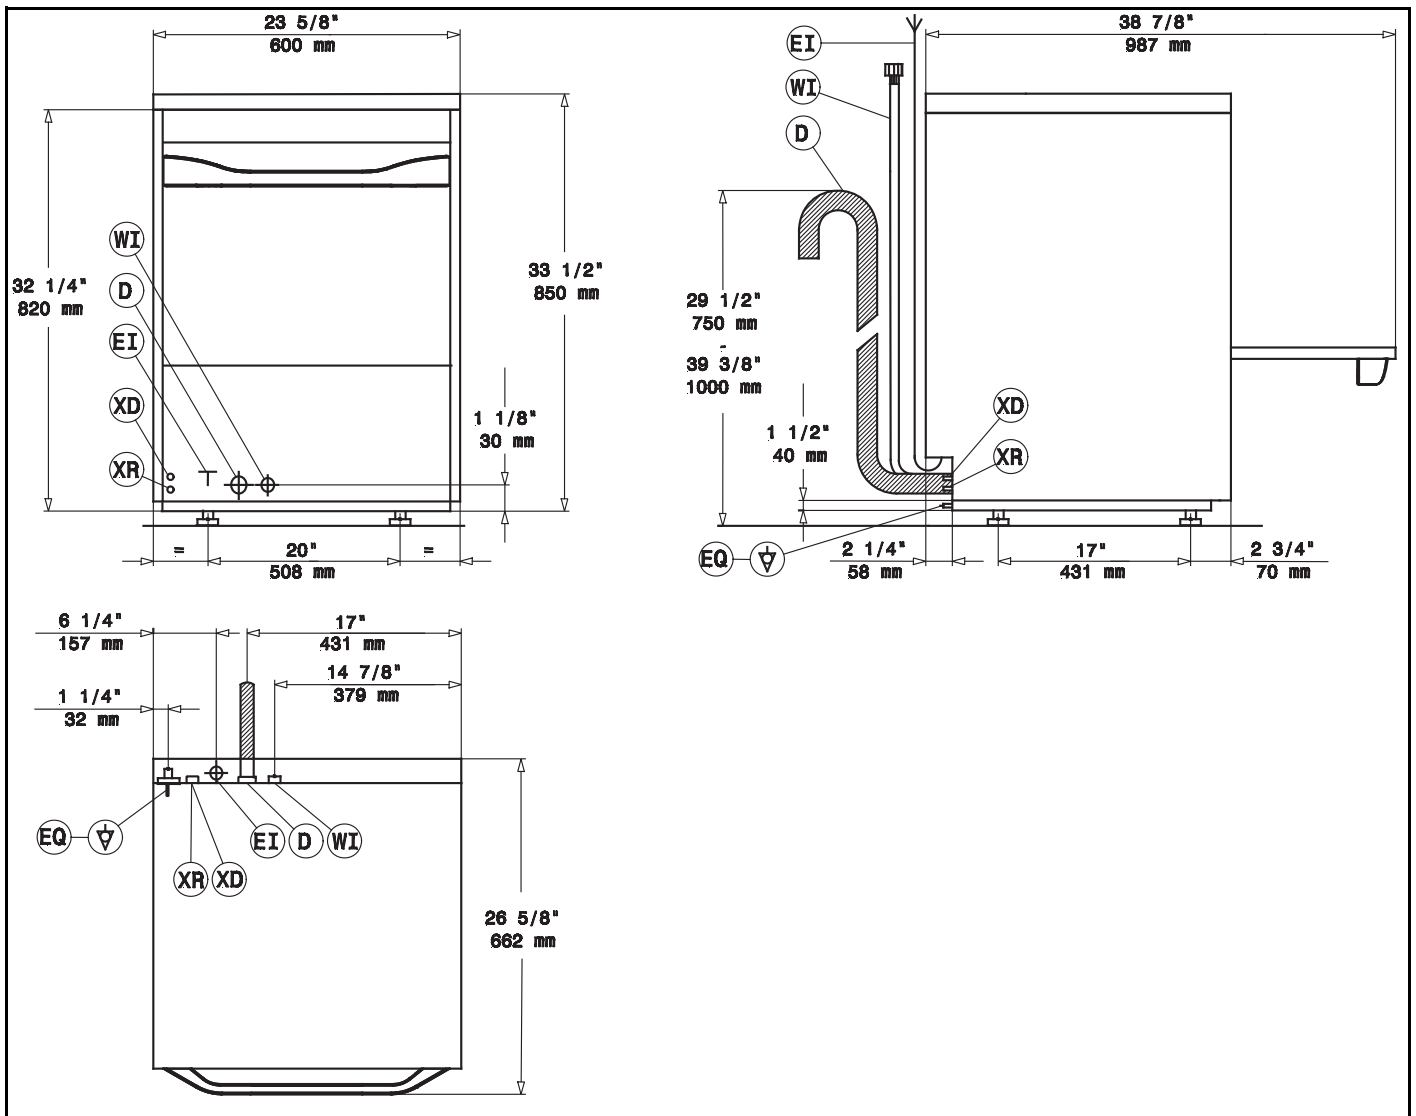
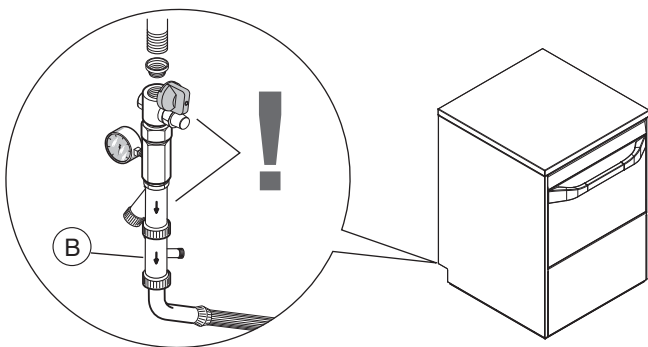

Figure 4
Figure 6
Legend Figure 4
- Connect the appliance water supply pipe "A" (Figure 4) (keeping with local plumbing codes) to the incoming water supply. Install a shutoff valve, Y-Strainer, and a pressure gauge between the appliance and the incoming water supply of the unit (Figure 6).
- In models with incorporated water softener, connect the double non-return valve "B" (Figure 6) supplied and the machine supply pipe.
- The appliance requires a ground connection to the unit ground screw located at the rear of the unit marked "Q" (Figure 4) in the manual and marked with the symbol "⚡" on the unit. The ground wire must have a cross section of AWG 8/8.35 mm². Do not use the wiring conduit or other piping for ground connections. If necessary, have the electrician supply the ground wire.